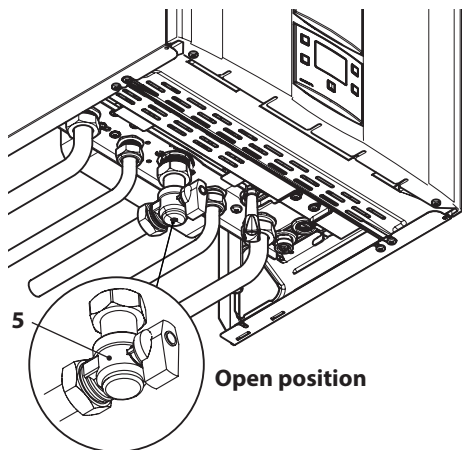

Figure 6.1
- Open the cock for the gas meter and for the boiler 5 in Figure 6.1.